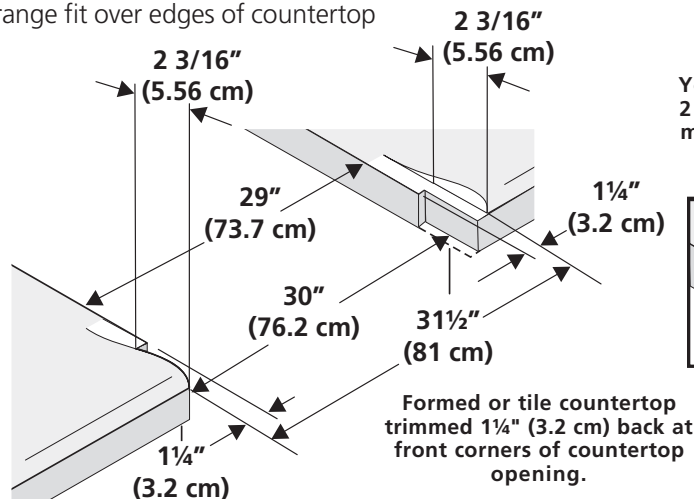

Figure 3
- For existing cutout width of **29" (73.7 cm)** (Figure 3):